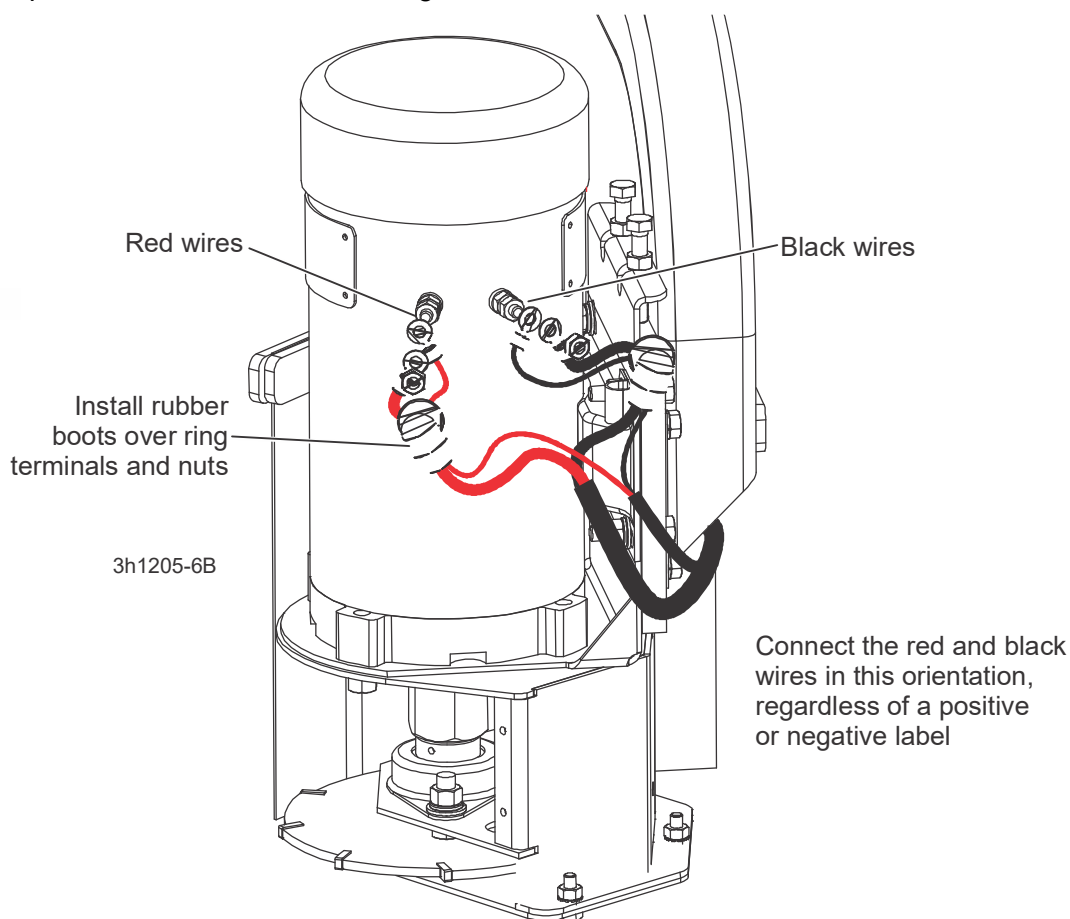

FIG. 1-7
DANGER! Attach the blade motor wires as shown in FIG. 1-7. Failure to do so will result in serious injury or death.
23. Connect the red motor and light wires to the **left motor terminal** and replace the terminal nut to secure the wires. **See FIG. 1-7**
24. Connect both black wires to the **right motor terminal** and replace the terminal nut to secure the wires. **See FIG. 1-7!**